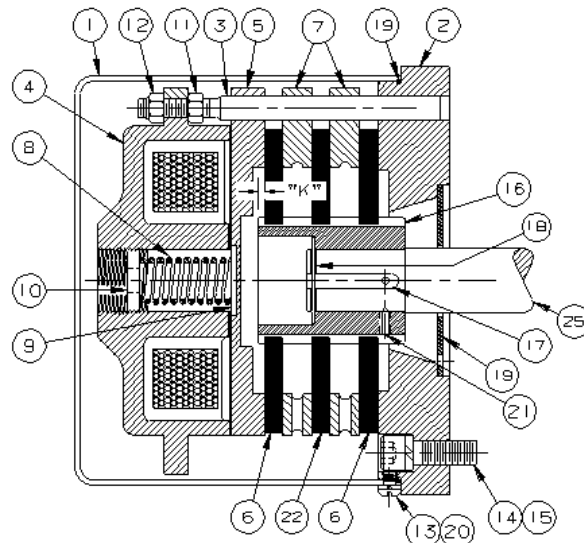

FIGURE 1. BRAKE ASSEMBLY
Refer to FIGURE 1 for a mechanical picture of the brake. Rotating mechanical power to the brake is provided by a drive shaft (25), that drives both brake lining discs (6) & (22), through the brake spline hub (16). Braking is achieved by spring (8) pressure being applied to the armature plate (5) that places equal pressure on both brake lining discs (6) & (22). Rotating mechanical power is then absorbed and converted to heat and dissipated through the armature plate (5), brake plates (7) and mounting plate (2). When the magnet shunt wound coil is electrically energized, it pulls the armature plate (5) towards the magnet pot (4) releasing the spring (8) pressure on both brake lining discs (6) & (22), which removes braking pressure and allows the drive shaft (25) to rotate freely.
3. Spline hub (16) and drive shaft (25) must not extend 0.062 inches (dimension "K") beyond the outer brake lining disc (6), otherwise, the brake will not operate. See FIGURE 1, page 1.
4. Spline hub (16) must be securely fastened to the drive shaft (25). Locating dimension "K" must be held by one of the following three methods:
- a. PREFERABLE METHOD - Provide a Class RC2\* sliding fit between the spline hub (16) and the drive shaft (25). Hub shall be keyed (17) (minimum AISI 1018 CDS keystack) to the drive shaft (25). A retaining ring (18) shall be installed on the drive shaft (25) to prevent the key (17) and spline hub (16) from backing off the shaft. A shaft (25) shoulder should be provided to prevent hub (16) movement in the opposite direction.
- b. ACCEPTABLE METHOD - Provide a Class LN3\* location interference fit between the spline hub (16) and the drive shaft (25). Using a 3/16 inch diameter drill, indent key (17) and shaft (25) through both set screw holes in hub (16). Then firmly install both set screws (21) to lock the hub (16) on the shaft (25).